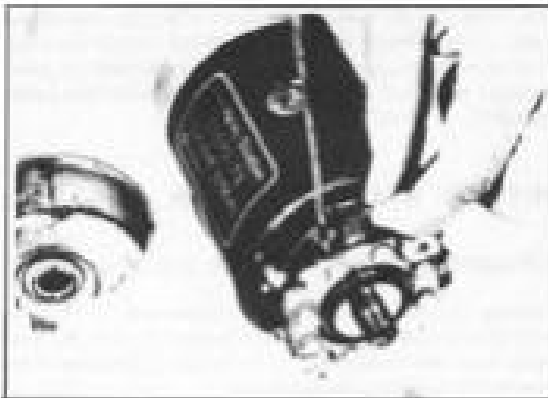
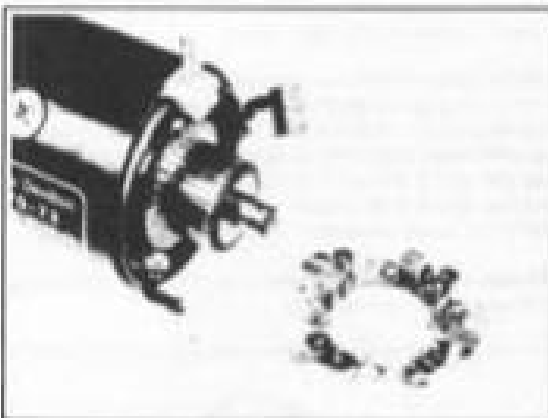

Figure 5-31. Removing Brushes – Hitachi Motor
Figure 5-32. Hitachi Brush and Brush Holder
Lift the brushes from the commutator. As shown in Figure 5-31, pulling up the brush spring with a steel wire and pull out the brushes. Note that two negative brushes (7) have to be withdrawn slightly to be held in the brush-guide, making use of the action of the brush spring. The other two positive brushes (8) should be completely removed from the brush holder assembly (9) as shown in Figure 5-32.